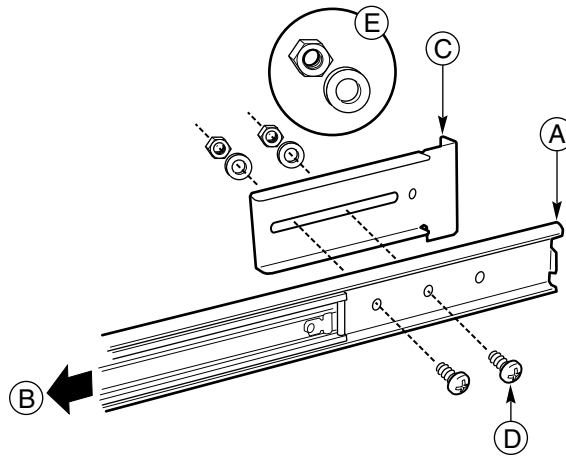

Figure 7 Correct Alignment of Screw, Washer, Nut, Bracket, and Slide Assembly (FR/RL)
2. Extend the intermediate member out from the outer member so that you have complete access to the rear part of the outer member. Item B in Figure 7 shows the direction in which you must extend the intermediate member. On the right side of the slide assembly, notice that the three screw holes in the outer member are accessible.
5. Place screws in the two front holes from inside the outer member and loosely tighten with a washer and lock nut. The correct alignment of the screw, washer, lock nut, bracket, and slide assembly is shown in Figure 7.